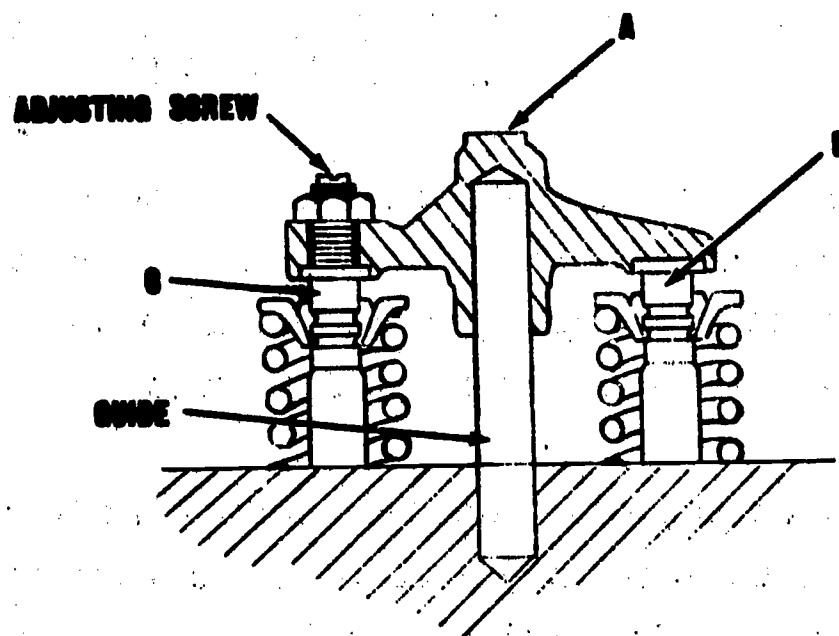

Fig. 4 Valve crosshead adjustment.
2. Use light finger pressure at center of crosshead "A" to hold the crosshead in contact with the valve stem opposite adjusting screw "B", see Figure 4. Turn down the crosshead adjusting screw until it touches the valve stem under adjusting screw "C".